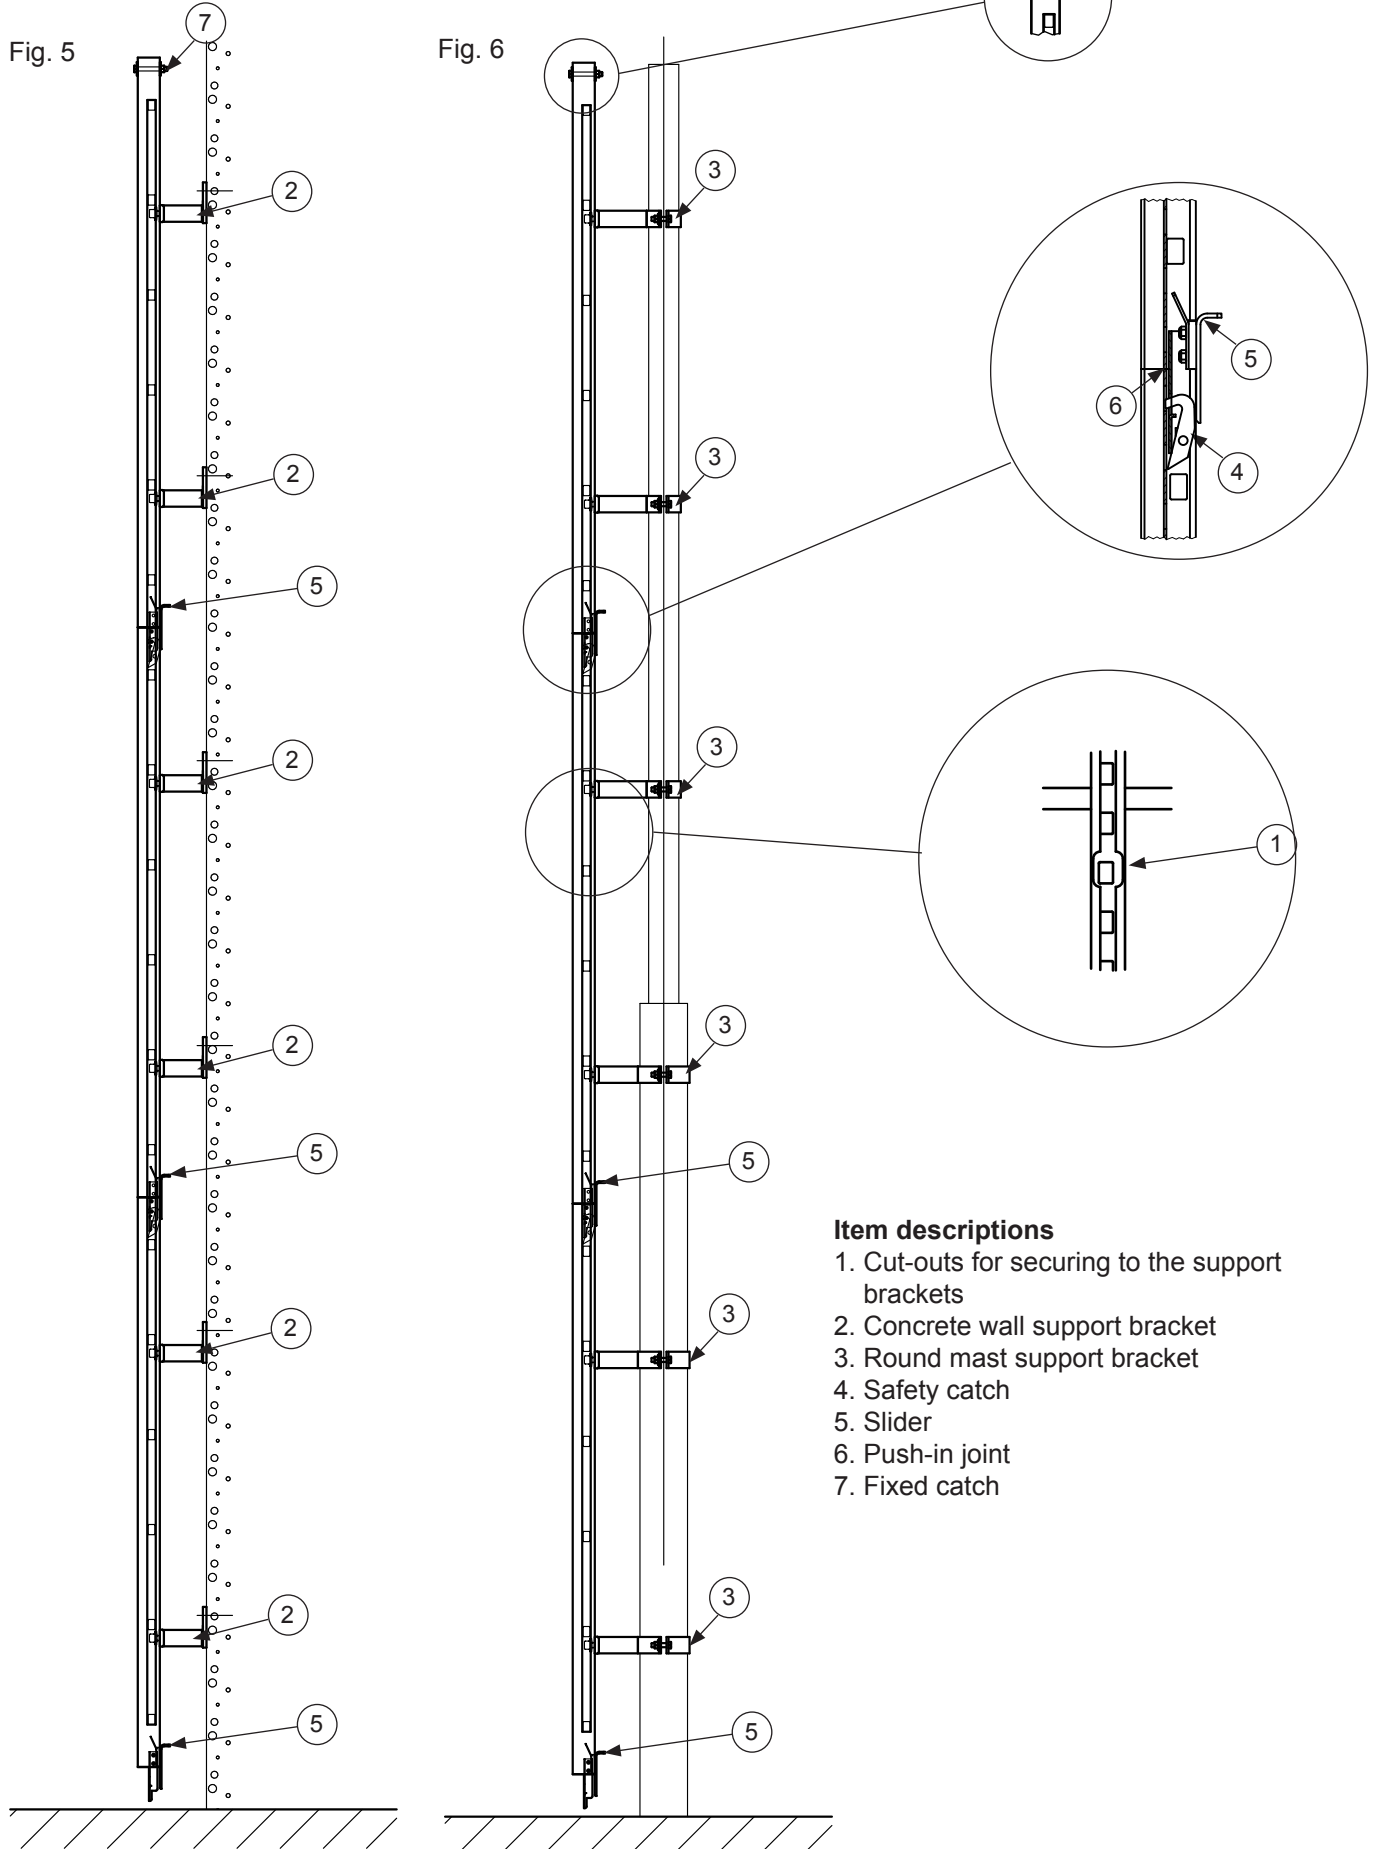

Fig. 7
- Length 2,800 mm: 10 kg (Fig. 7)
- c) The support bracket spacing must concur with the details shown in the drawings (Figs. 7 – 11).